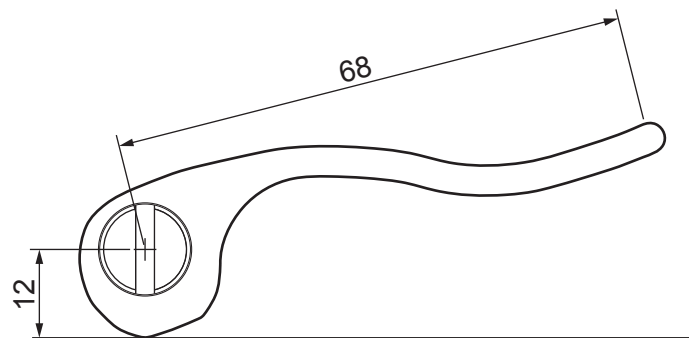

Fig. 10.2
- (iii) Fig. 10.2 shows details of the lever.